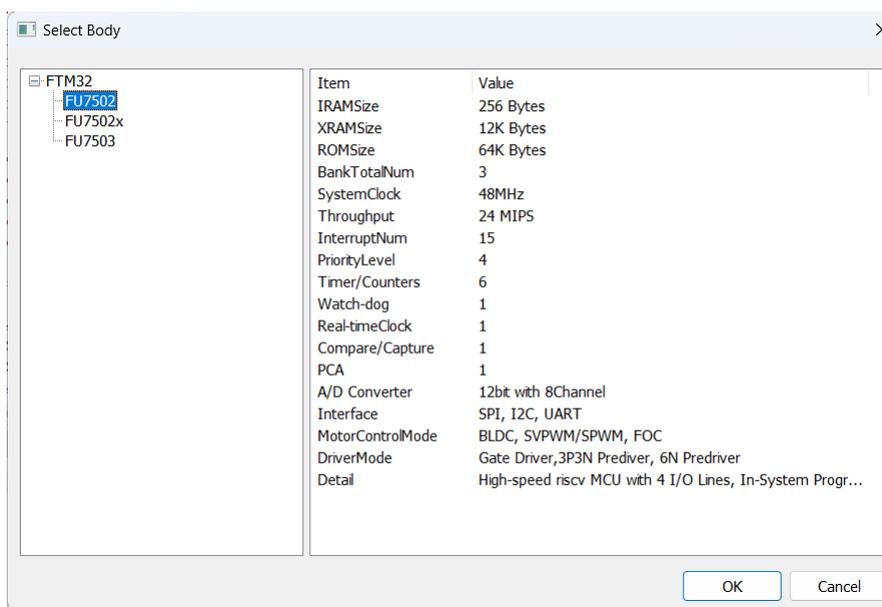

Figure 1-40
- Body Name: If you want to change the Body of the created project, you can click on the Body Name to change it, and the “SupportBody” displays the supported chip sub models, as shown in Figure 1-40.